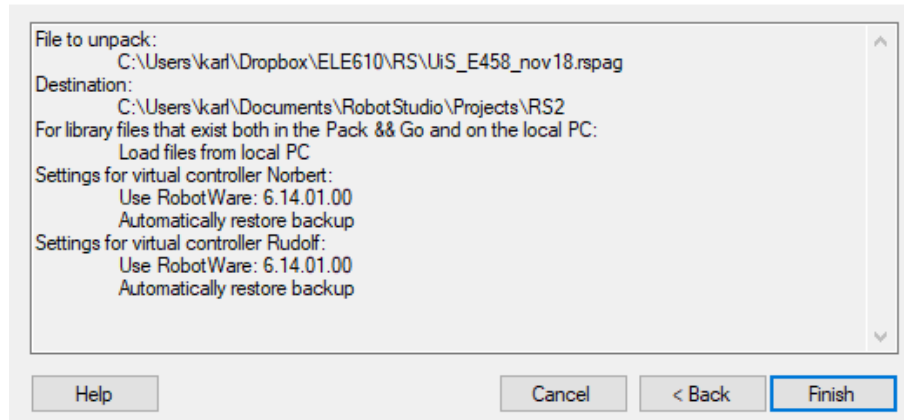

Figure 1: The window with the selected choices before you continue unpacking the Pack and Go file.
- e. Now you will see a window with the selected choices before you continue, this should be as shown in Figure 1. Select .